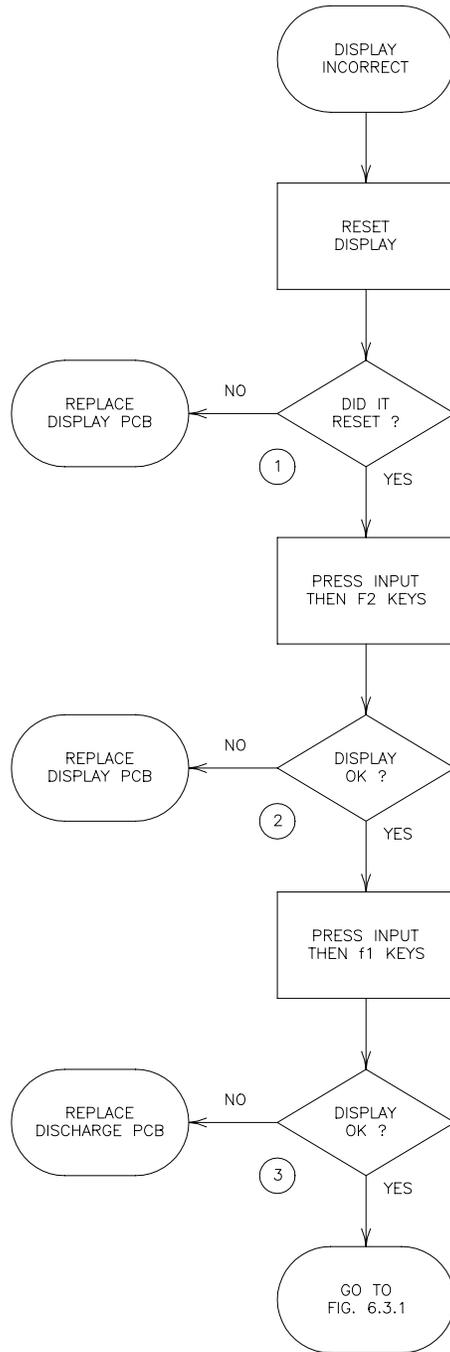

FIGURE 6.3.3 DISPLAY FLOW CHART
2. At power up, the welcome message should be displayed. If the display is not working go to figure 6.3.3.
The numbered comments below correspond to the circled numbers on figure 6.3.3 and provide detailed instructions relative to the referenced step.